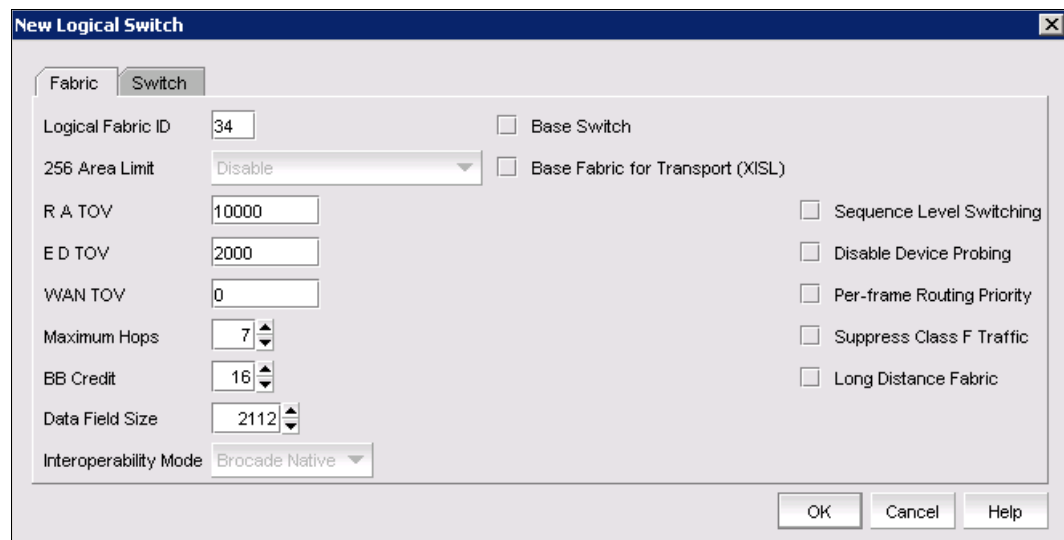

Figure 8-12 New logical switch fabric parameters
4. Configure the new logical switch as required by modifying the fields as shown in Figure 8-12.